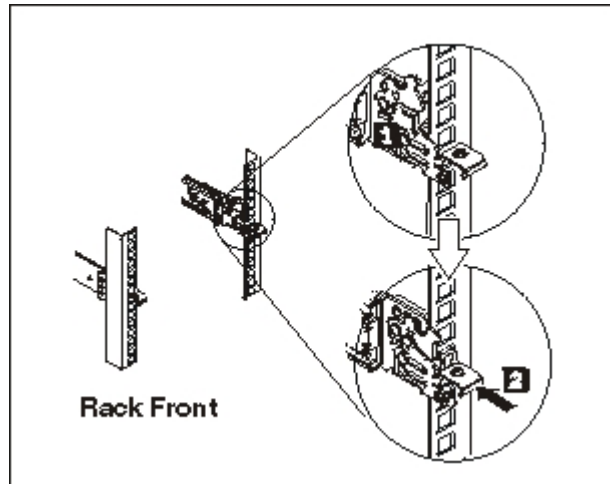

Figure 8. Install the front end of the slide rails
3. Install the front end of the slide rails, as shown in Figure 8 on page 17.